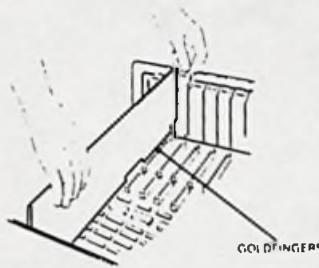

Figure 11. Installing the Ultragraphics
6. Hold the Ultragraphics by the top edge and carefully push the board into the available slot. Make sure that the gold-plated connector fingers on the bottom of the board slide all the way into the slot. The mounting bracket should be aligned with the system's bracket. See Figure 11.